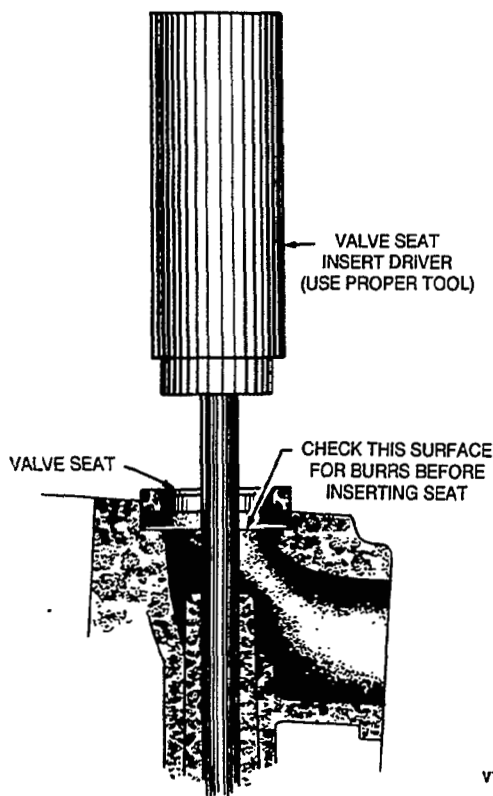

FIGURE 9-11. INSERTING NEW VALVE SEAT
2. Insert the pilot of the driver into the valve guide hole in the cylinder block. Quickly drive the valve seat insert in, so that the insert goes evenly to the bottom of the recess in the cylinder block. Make certain that the valve seat insert rests solidly on the bottom of the recess all the way around its circumference (Figure 9-11).